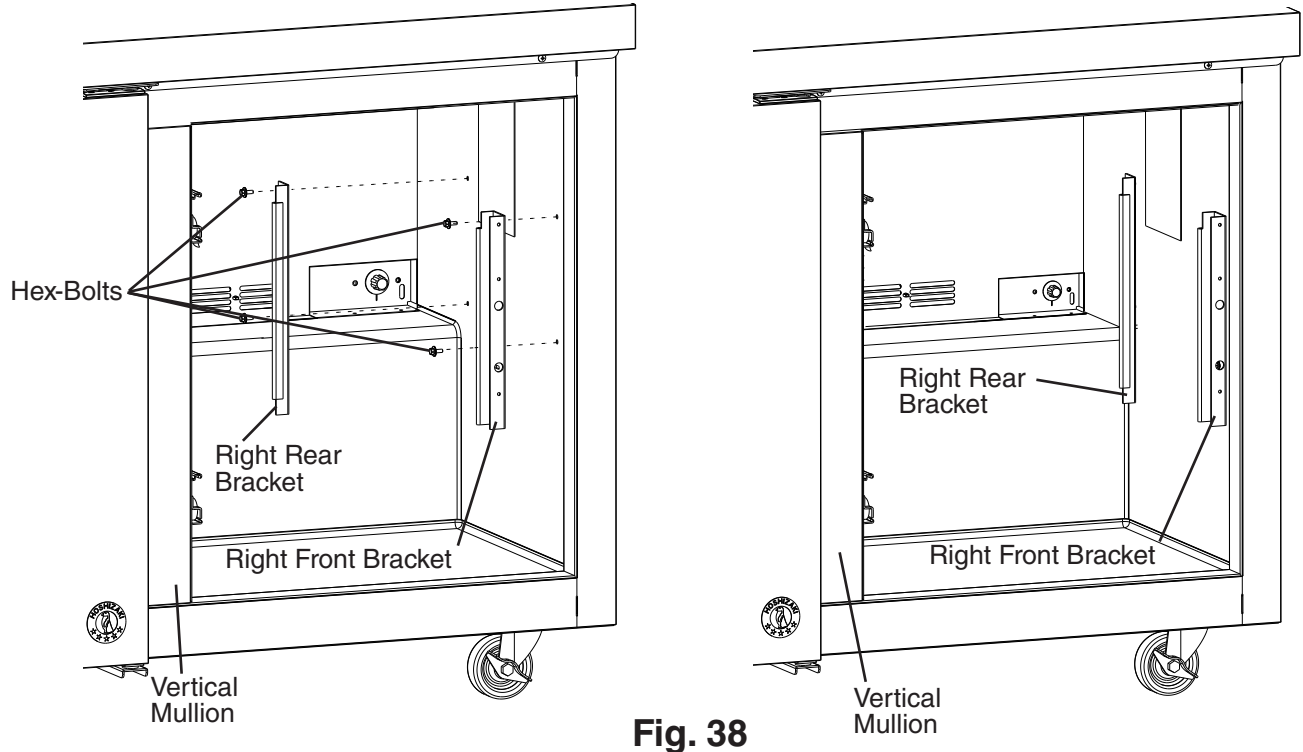

**Fig. 38**
- 23) Place the right rear bracket in place on the right side panel with the hex-bolts removed in step 4. Leave loose, do not tighten at this time. See Fig. 38.
- 24) Place the right front bracket in place on the right side panel with the hex-bolts removed in step 4. Leave loose, do not tighten at this time. See Fig. 38.